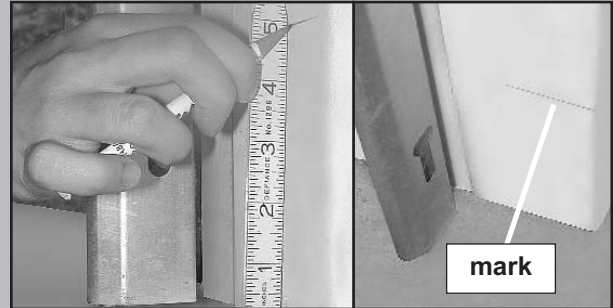

FIG. 3-1 Mark door frame.
- Mark both sides of garage door frame or wall 5" above floor (**Fig. 3-1**).